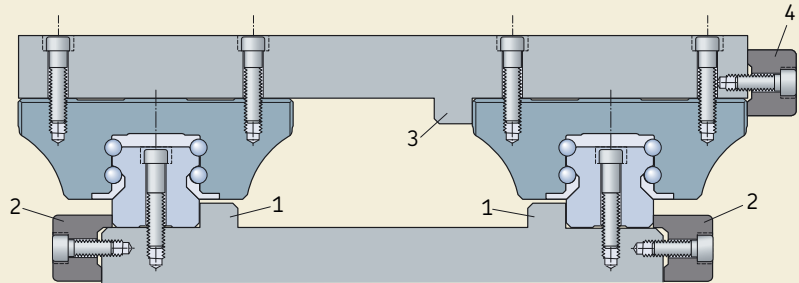

Fig. 1
**Options for securing the rails laterally (→ fig. 1)**
**Options for securing the carriages laterally (→ fig. 1)**